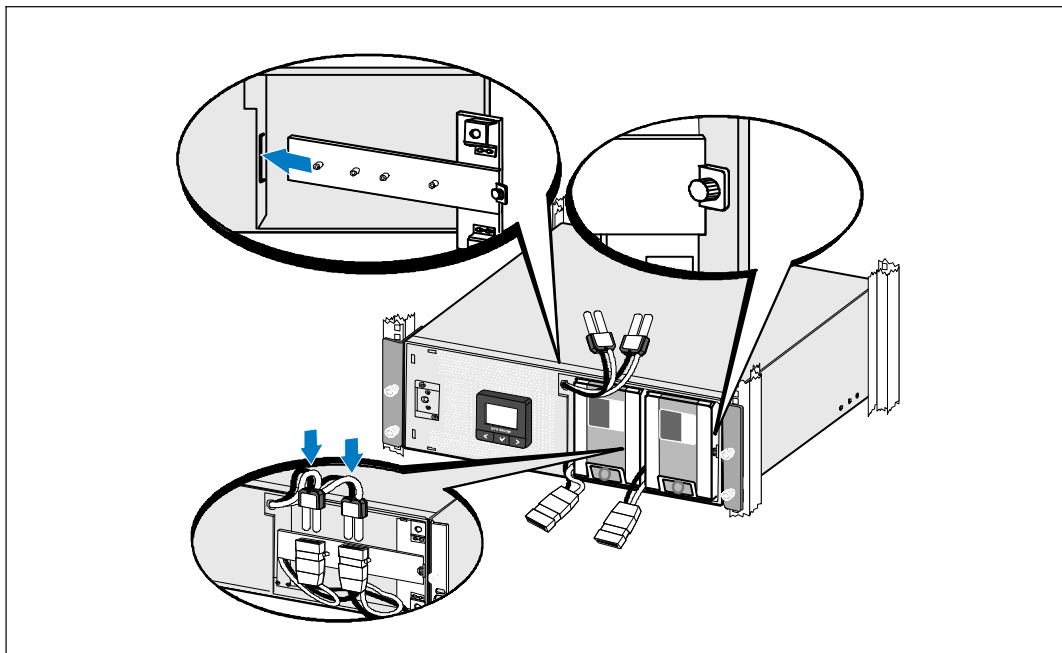

Figure 13. Replacing the Battery Retaining Bracket and Connecting the Internal Battery Connectors
- 9 Replace the battery retaining bracket (see Figure 13).